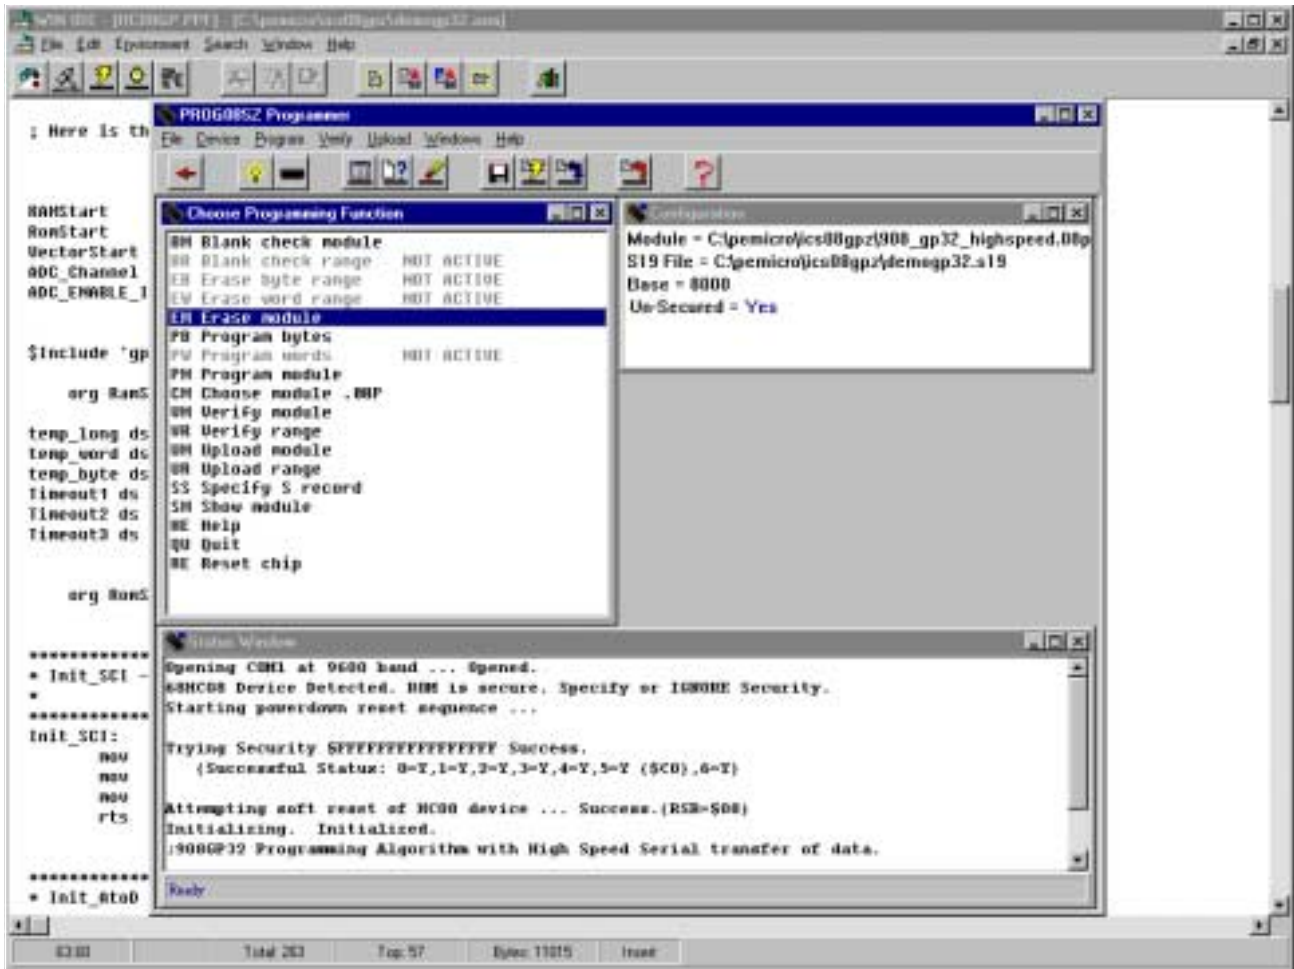

Figure 10. P&E's Programmer Window
- m. Double click on "Erase Module" – EM (see Figure 10).